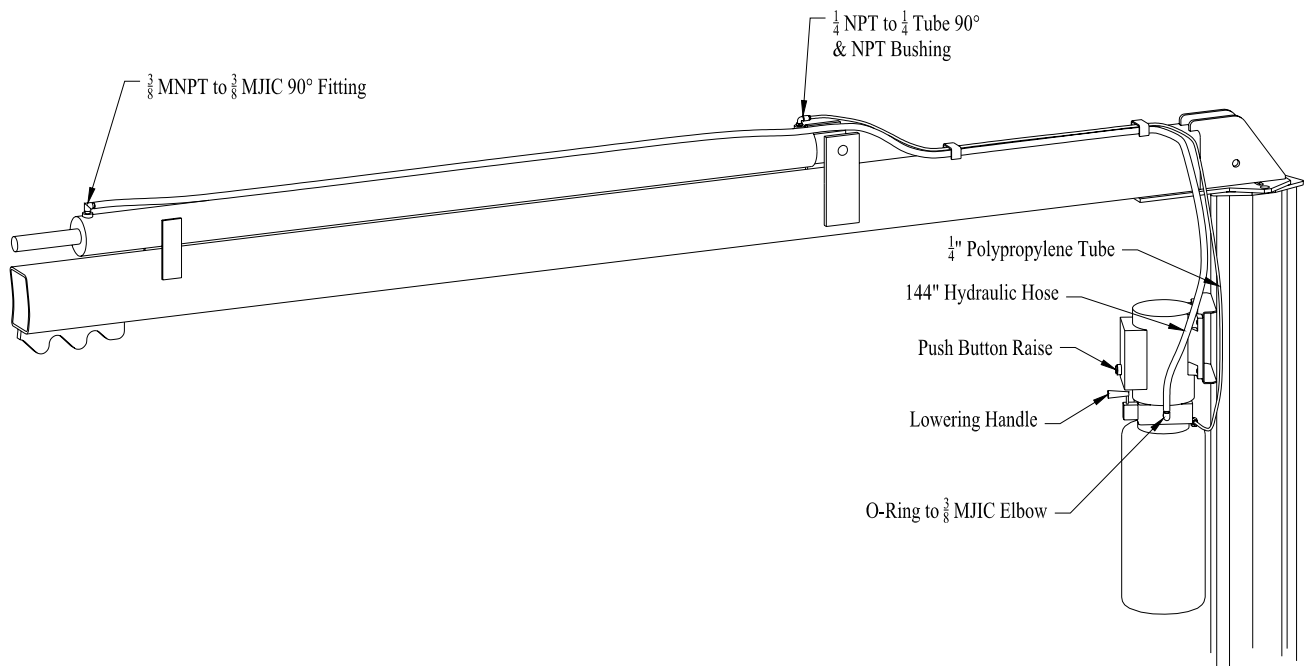

Figure 11
15. Refer to Figure 11. The port immediately to the right of the lowering handle is the high pressure port. Install the O-Ring to 3/8 male JIC elbow.